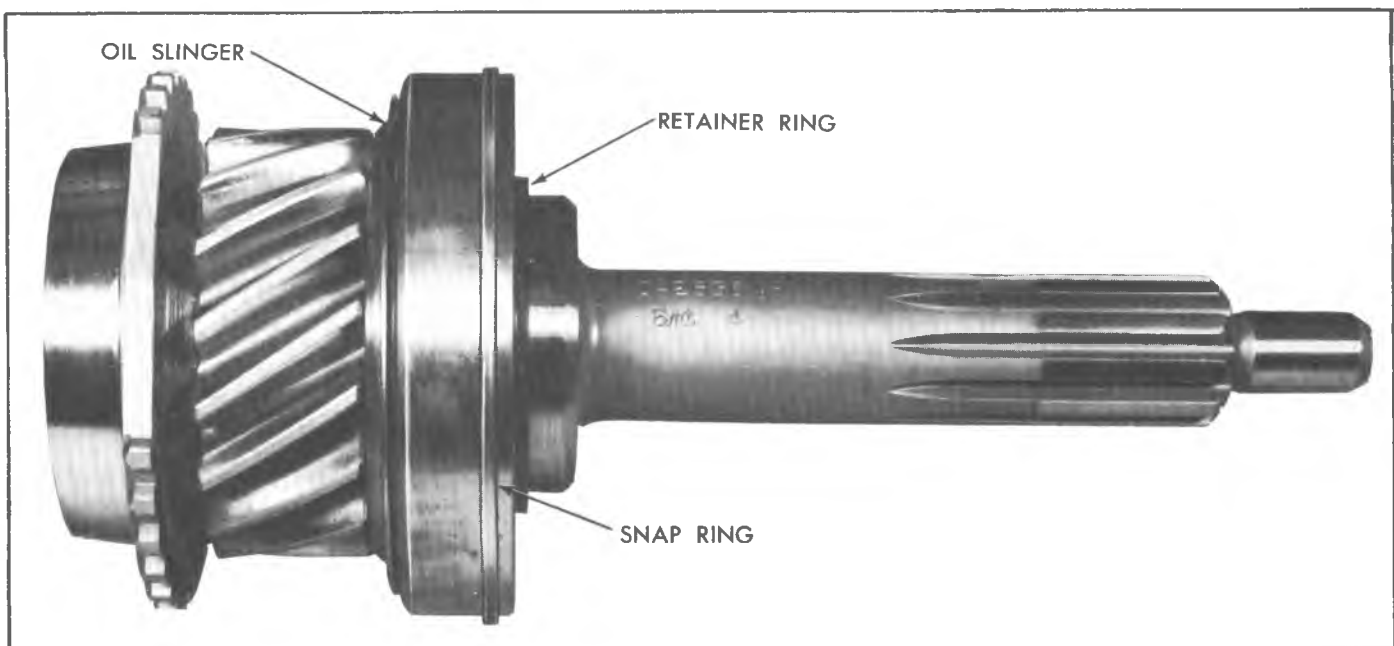
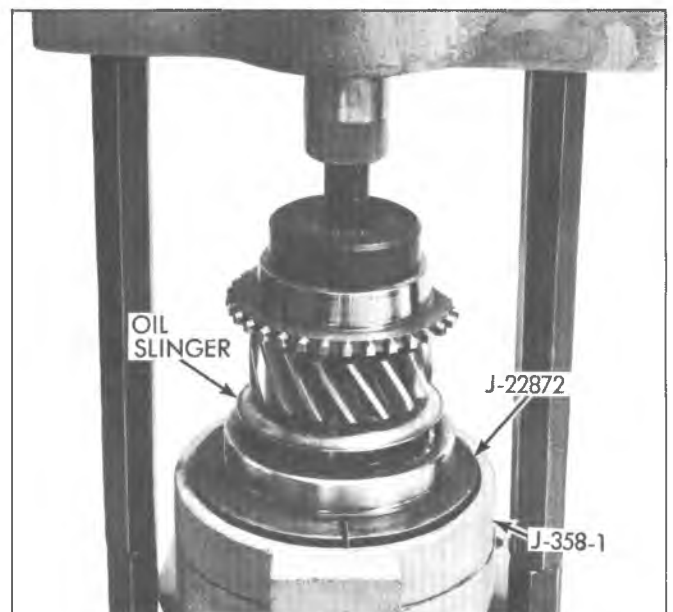

Fig. 8Q-Drive Gear Assembly
Fig. 11Q--Replacing Drive Gear Bearing
DRIVE GEAR (FIG. 8Q)
1. Press bearing and new oil slinger onto drive gear shaft using Tool J-22872 (fig. 11Q). Slinger should be located flush with bearing shoulder on drive gear. See Figure 8Q for direction of slinger installation.